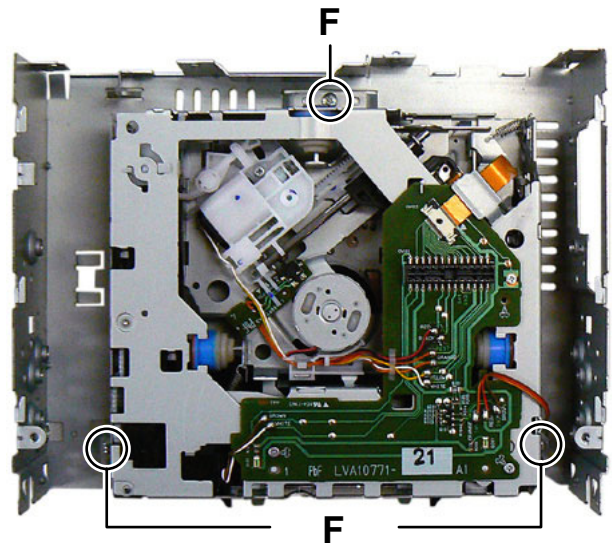

Fig.6
3.1.5 Removing the CD MECHANISM assembly (See Fig.6)